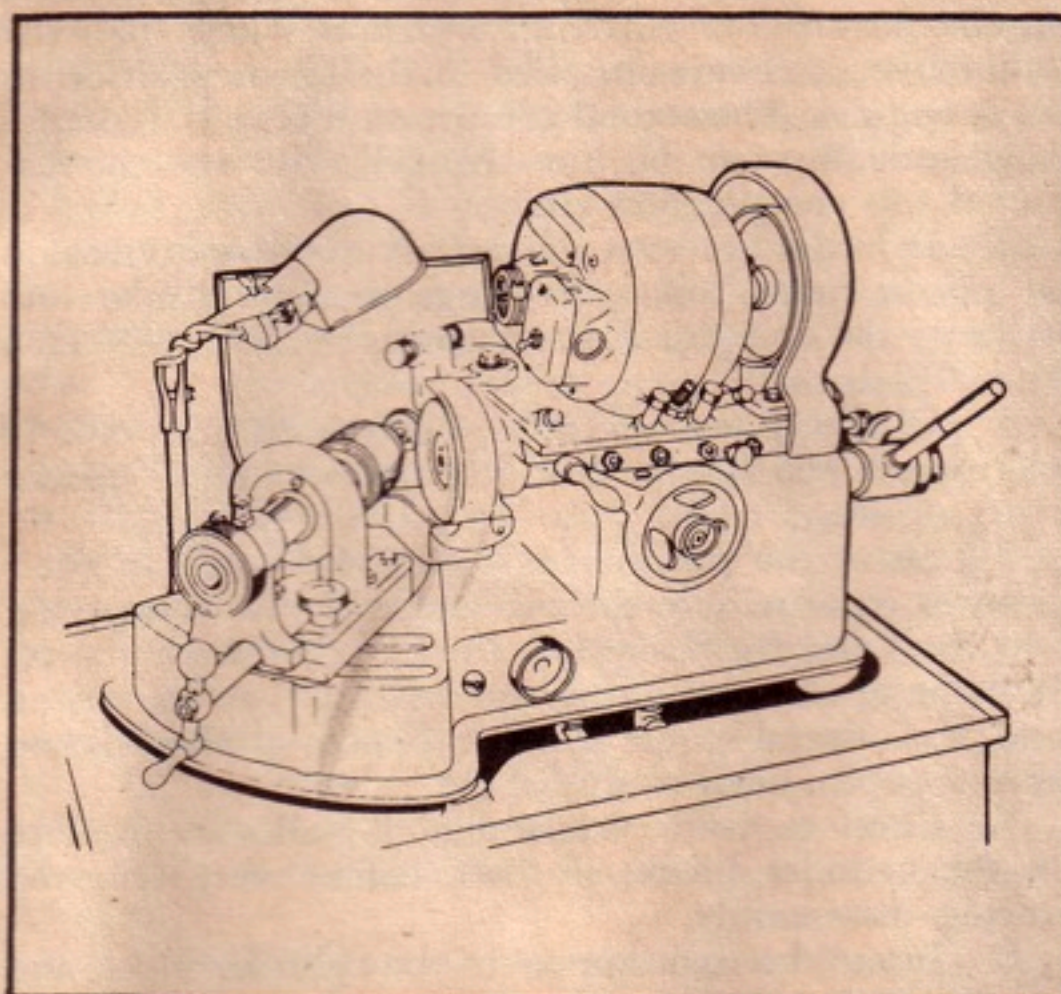

Figure C-17. Reconditioning Valve Faces
a. If the original valves are in good condition and can be reused after they have been refaced, chuck one of the valves in a typical valve refacing machine and grind the face at a 45-degree angle until the entire face has been cleaned up. (See figure C-17.)